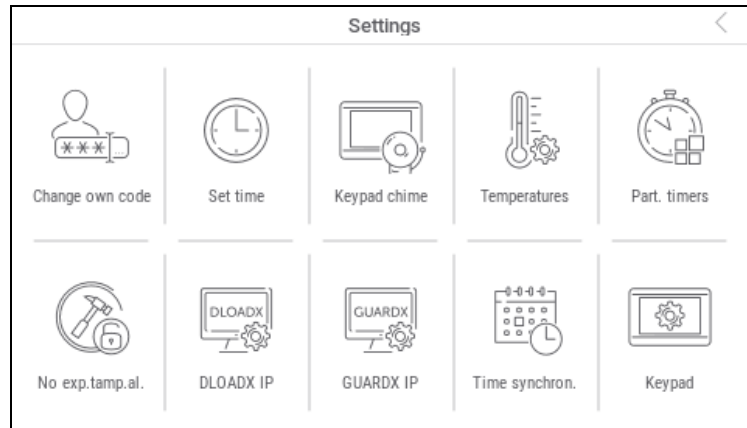

Fig. 39. "Settings" screen (example).
5. Tap the “Settings” function. The “Settings” screen will be displayed (Fig. 39).